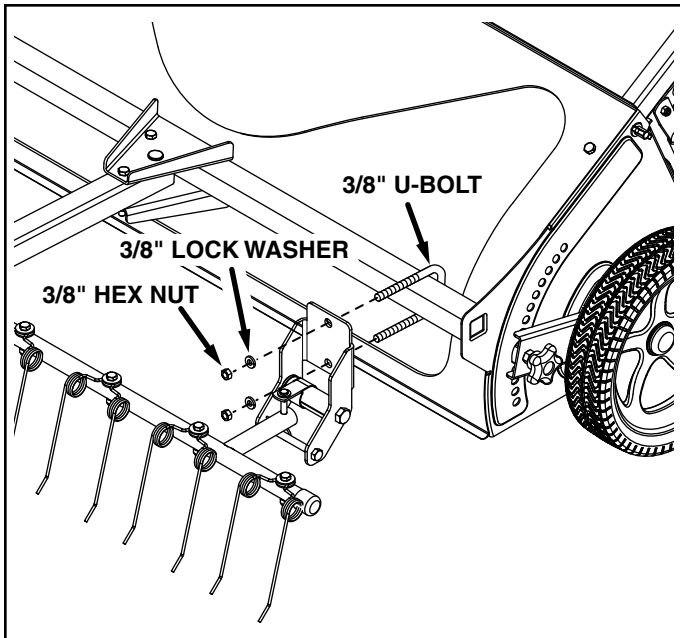

FIGURE 11
- **Tighten** the U-bolts and nuts assembled in figure 11.